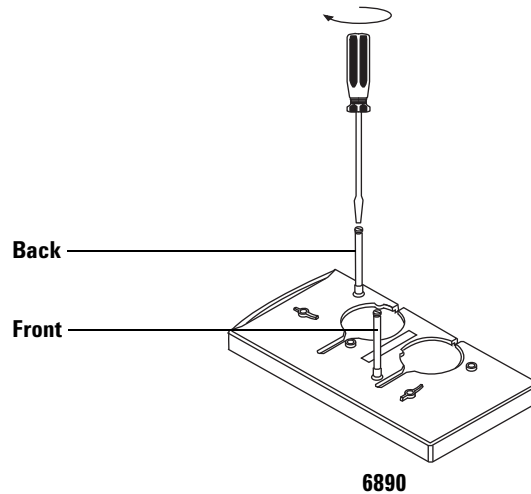

Figure 12 Installing the mounting post(s) (6890 GCs)
- **6890 Series GC.** Install into the inlet cover in the front or rear location, as desired. The post must be turned all the way down (Figure 12).